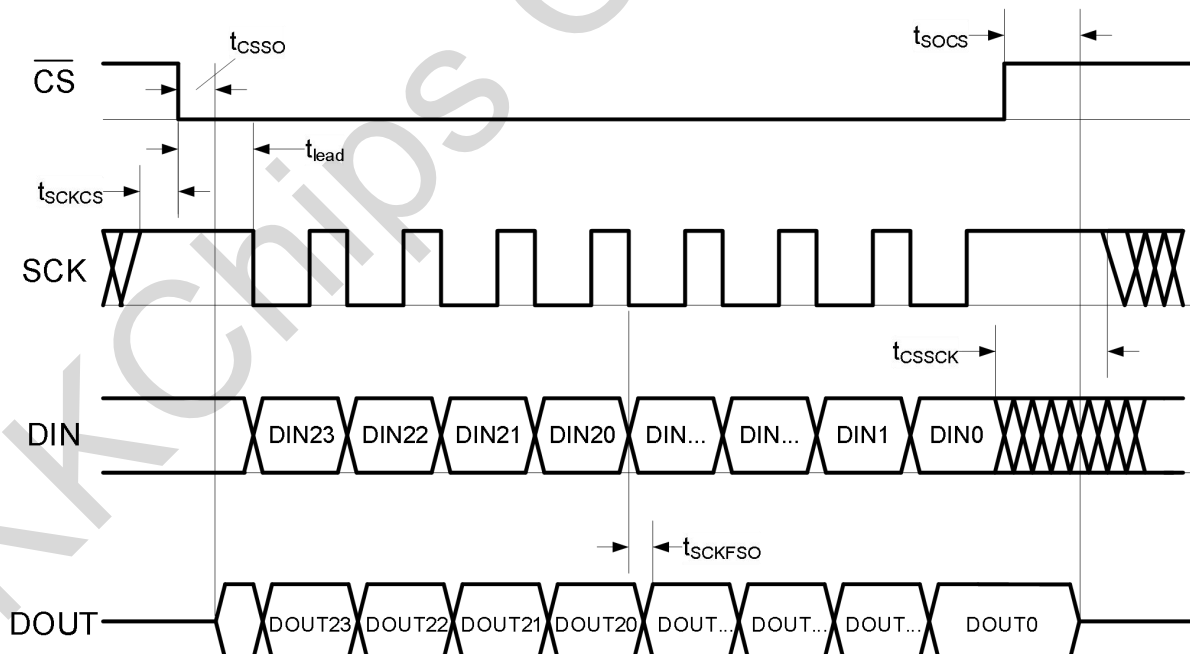

Figure 3-13 SPI timing diagram
1. See Figure 3-13
SPI is a standard four wires interface that communicates with a data word of 24 bits. By means of SPI all the channels can be driven in serial way and diagnosis is sent out. Timing of SPI's operations are reported in Figure 3-13. The input data (DIN) is read on the rising edge of the SPI's clock (SCLK), in the same way the output data (DOUT) must be read by the Microcontroller on the SCLK's rising edge.